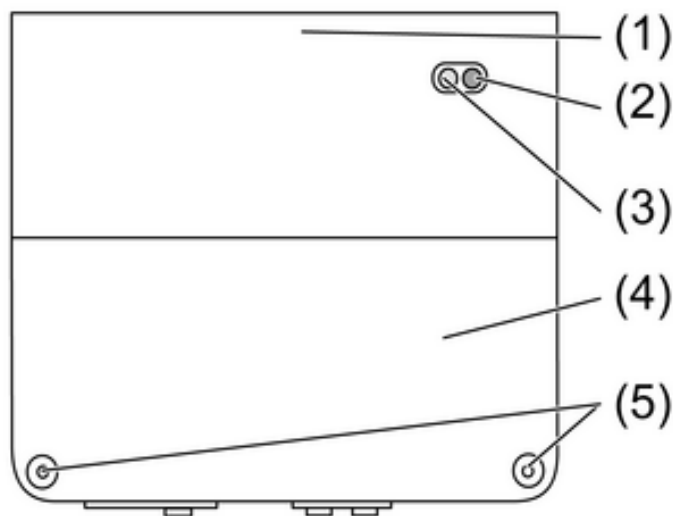

Figure 1
- Slacken the two screws (5) and remove housing lid (4) (Figure 1).